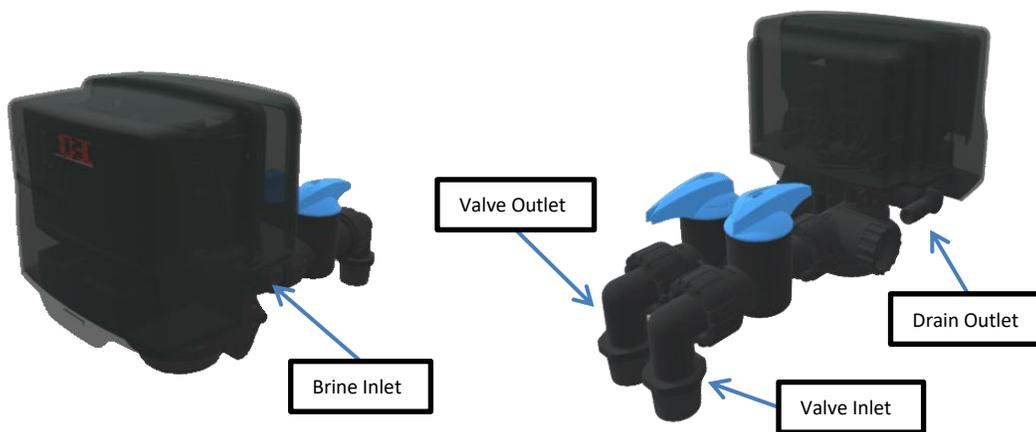

Figure 15: Control Valve Diagram
- C. Attach the brine line to the valve's brine inlet shown in figure 15.
- A. Pipe or tube a line from the Control Valve Drain (Figure 15) to the drain.